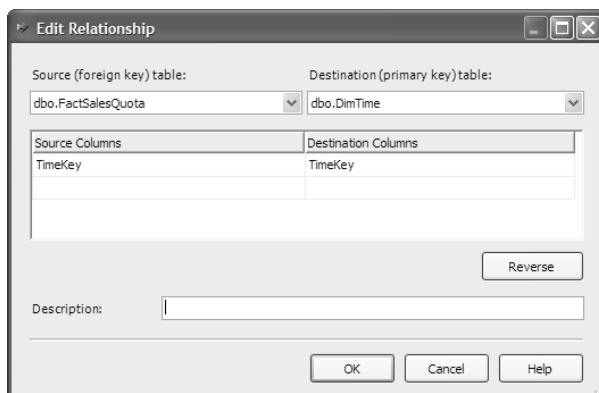

Figure 5.5 Create data schema relationship between the fact table and the dimension table that will be joined at a higher grain.
3. Double-click on the relationship (the arrow line) between the FactSalesQuota and DimTime tables to open the Edit Relationship dialog (Figure 5.5).